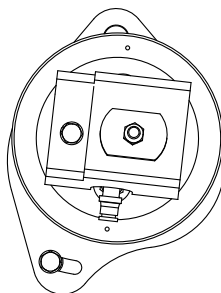

Fig. 3
2. Insert flat head screw (M) through the rear bottom bracket (N) prior to installing the air spring to the bracket.
3. Apply a roll plate (L) to the bottom side of the air spring (B) with the lower air spring bolt holes accessible. Align these holes with the bottom bracket holes (make sure the flat head screw [M] is still installed) and thread flat head screws (O) through the bottom bracket and into the air spring. Torque to 27Nm (20 lb.-ft.).
4. Attach the corresponding upper bracket (left [E] and right [D] specific) and roll plate to the air spring using the supplied fine thread hex bolts (I) and lock washers (H). Please note the upper bracket orientation as shown in (Fig. 3). Torque bolts to 27Nm (20 lb.-ft.).